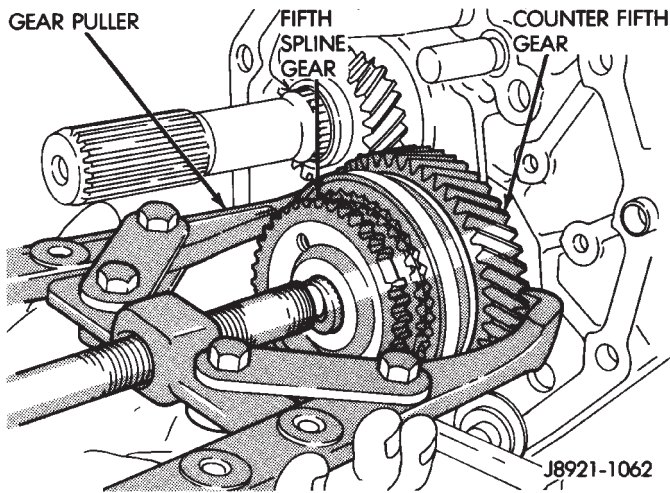

Fig. 32 Loosening Fifth Spline Gear
(12) Measure thrust clearance between counter fifth gear and thrust ring with feeler gauge. Clearance should be 0.10 to 0.40 mm (0.003 to 0.019 in.). If clearance exceeds limits, gear and/or ring will have to be replaced.
(13) Loosen fifth spline gear with standard two-jaw puller (Fig. 32). **Position puller jaws behind fifth counter gear as shown.**